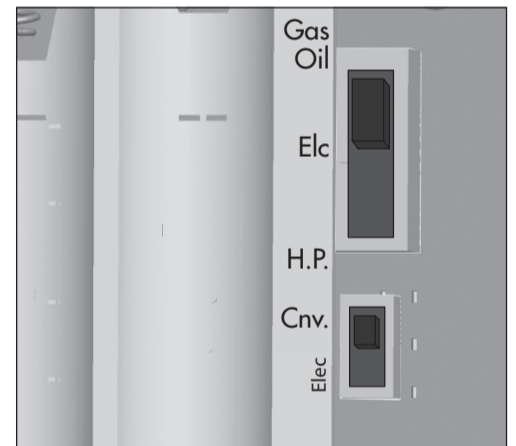

Figure 10.
9. Set the system switch to "Conv" if you have a conventional HVAC system or "HP" if you have a heat pump system. Set the furnace type to "Elec" if you have an electric convention system or a heat pump. "Gas/Oil" will be used if you have gas or oil based conventional system. Figure 10.
10. Lay the ribbon across the battery compartment and install 2 (AA) Batteries into the back of the thermostat over it, Figure 10., and snap the thermostat on to the mounting plate. Refer to "Setup" on page 10 of your owner's manual to continue setup, scheduling, and daily use.